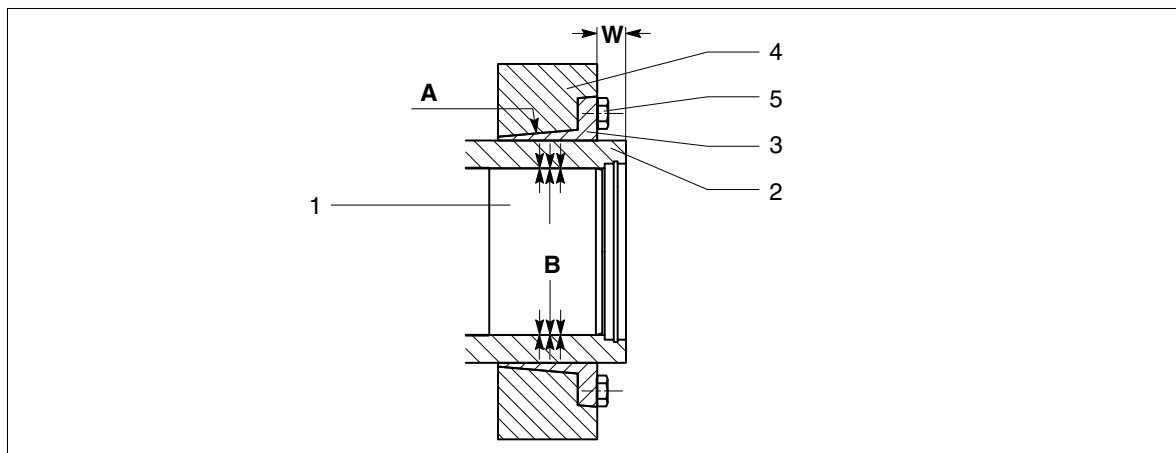

Fig. 42: Fitting the shrink disk
- The conical surfaces of the inner and outer rings (3 and 4, see figure 42) must be free of grease and oil.
- A thin layer of grease must be applied evenly to the conical surfaces of the inner and outer rings (3 and 4, see figure 42).
- Provide the tensioning bolts (5, see figure 42) on the contact surface and on the thread with lubricant.